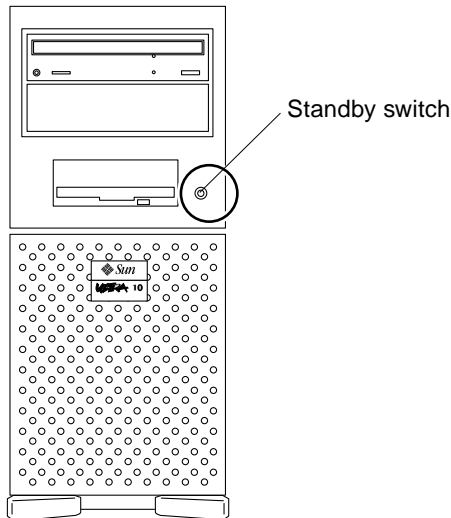
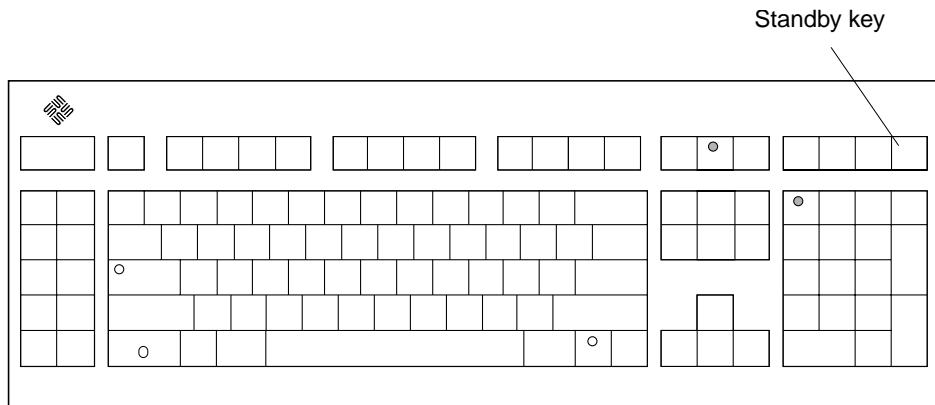
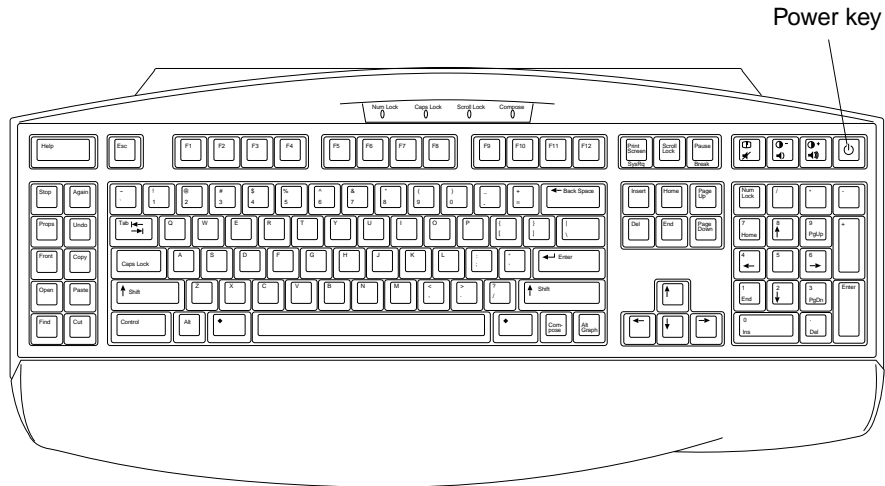

FIGURE 2-1 Ultra 10 System Standby Switch
FIGURE 2-2 Sun Type-5 Keyboard
FIGURE 2-3 Sun I/O Type-6 Keyboard
2. Press the system standby switch (FIGURE 2-1) or press the Sun Type-5 keyboard Standby key (FIGURE 2-2) or the Sun I/O Type-6 keyboard Power key (FIGURE 2-3).
5. If the system does not begin to power up, press the standby switch (FIGURE 2-1), or press the Sun Type-5 keyboard Standby key (FIGURE 2-2) or the Sun I/O Type-6 keyboard Power key (FIGURE 2-3).